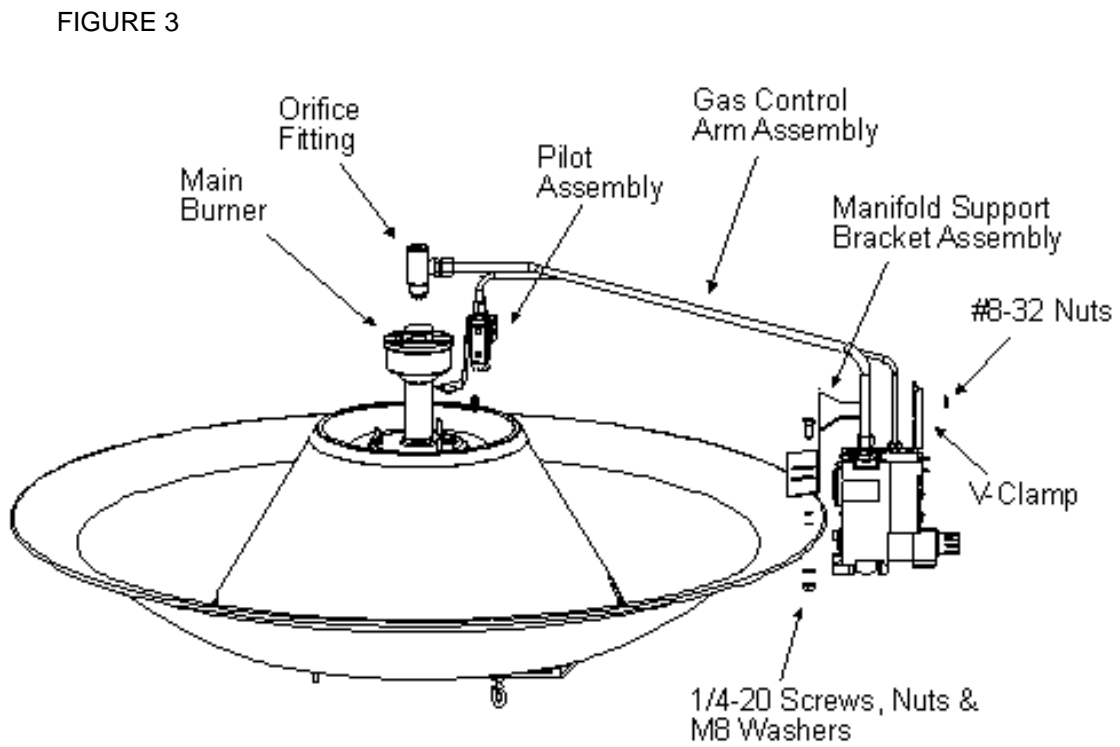

FIGURE 3
6. Attach the Manifold Support Bracket Assembly to the rim of the Canopy using two (2) screws, nuts and washers from the Fastener Kit. See Figure 3. **NOTE:** DO NOT COMPLETELY TIGHTEN THE FASTENERS AT THIS STAGE YET.
7. Attach the Control Arm Assembly to the Manifold Support Bracket Assembly as shown in Figure 3 using one (1) V-clamp and two (2) nuts from the Fastener Kit. **NOTE:** Adjust the Control Arm so that the V-clamp is butt against the tube fitting located at the bottom of the Gas valve. Tighten the nuts.